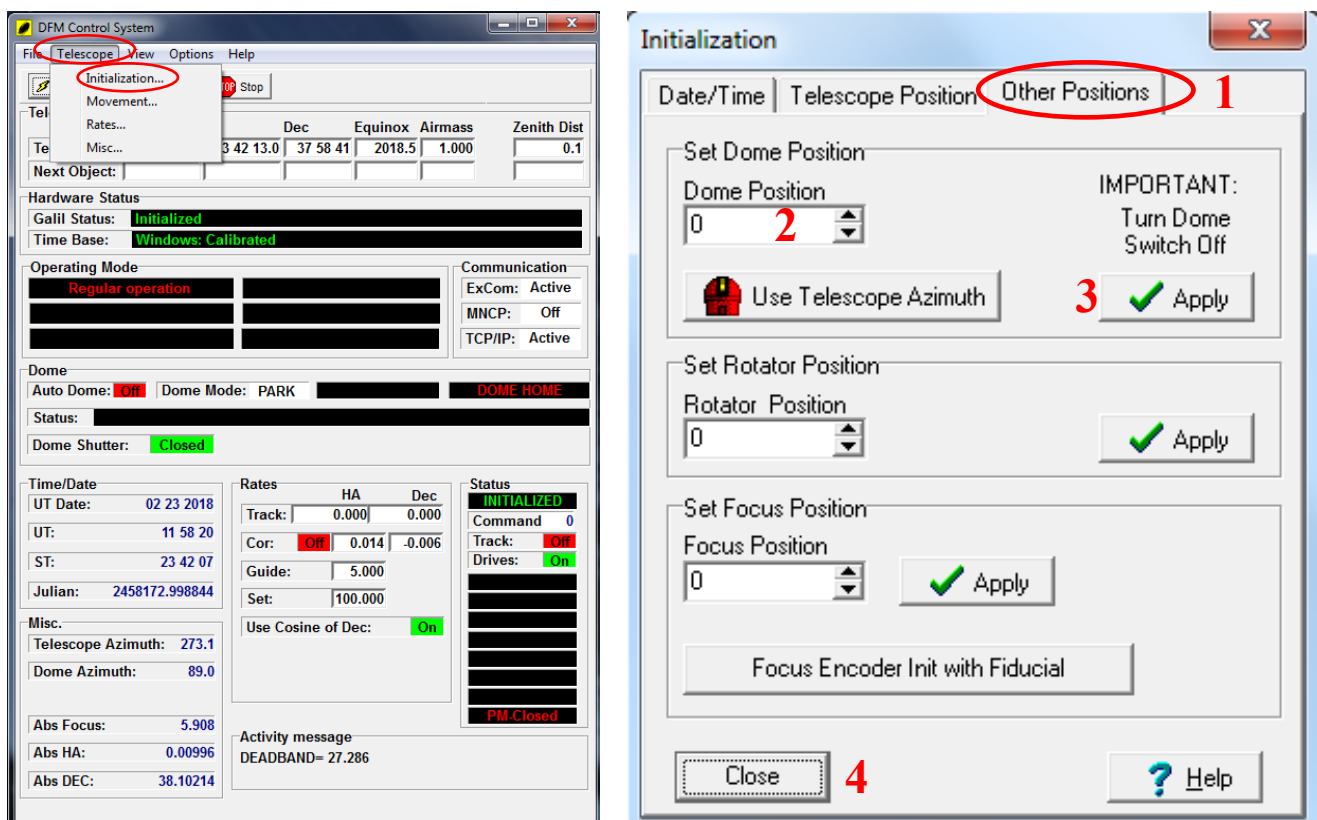

Fig. 8.8. Left: Telescope settings menu. Right: Setting dome position in the “Initialization” menu.
- i. Click on the “Telescope” menu and select “Initialization...” (Fig. 8.8 left).
- ii. Click on the “Other Positions” tab (Fig. 8.8 No 1) and type in the “Dome position” box the value 89.0° (Fig. 8.8 No 2).
- iii. Press the “Apply” and “Close” buttons (Fig. 8.8 No 3-4).